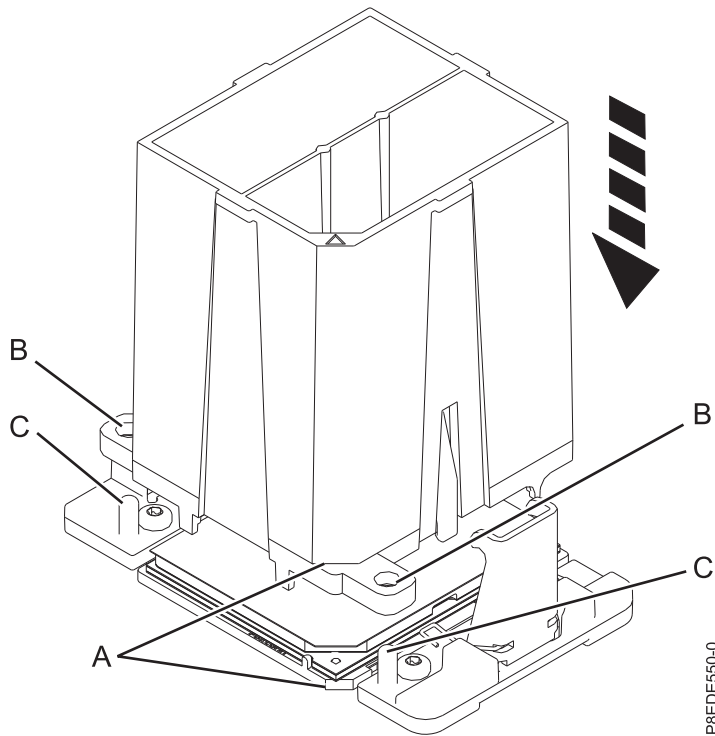

Figure 173. Lowering the removal tool onto the system processor module
- a. Using the supplied removal tool (part number 00E8483), align the beveled corner (A) of the tool over the beveled corner of the system processor module as shown in Figure 173.
- b. Lower the tool over the system processor module by ensuring the two guide pins (C) are inserted into the alignment holes (B) on each side of the tool.